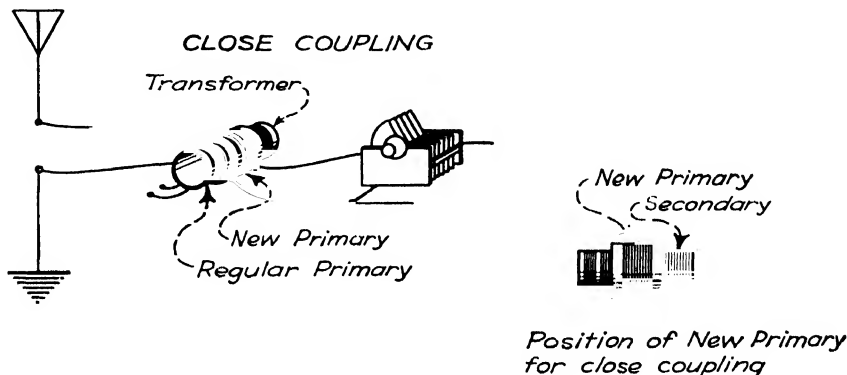

FIG. 169. A separate primary is used to demonstrate coupling. Here it is set for close coupling. Signals are loud but tuning is poor.
Step 1. Wind a coil of 30 turns on a form that will slip over the transformer used in the last experiment (see Fig. 169).
Step 3. Set the new coil at about the center of the secondary (see Fig. 169).